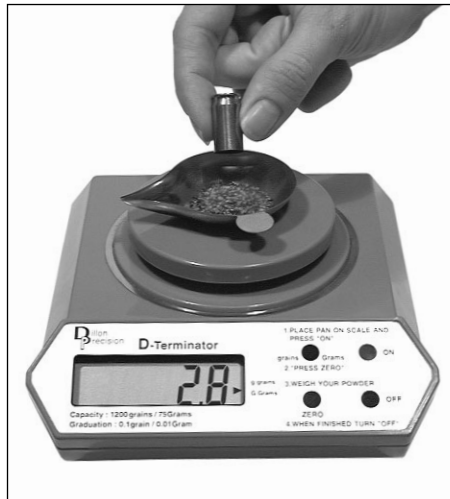

FIG 137
4. Cycle the machine to charge the case. Using your powder scale, weigh the powder charge **FIG 137**. (From this initial measurement, you will be able to determine whether you'll need to increase or decrease the powder charge.)